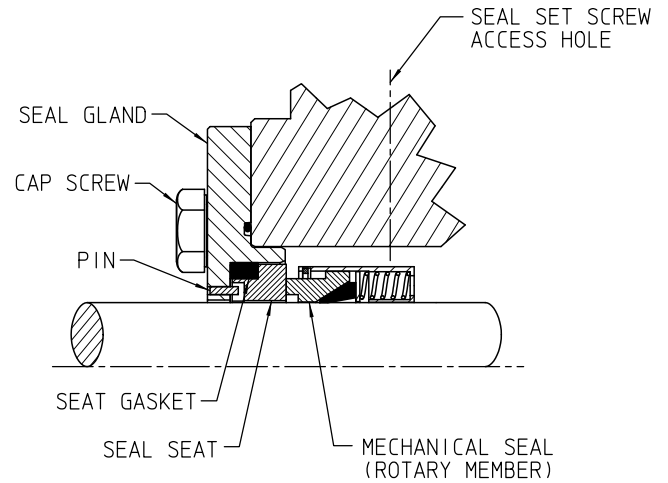

FIGURE 14
3. PTFE Wedge Type 9 (**Figure 14**)
4. For PTFE wedge seal, move the rotary member so the setscrews are directly below the seal access holes on the side of the bracket (See **Figure 14**). Tighten all setscrews securely to the shaft.